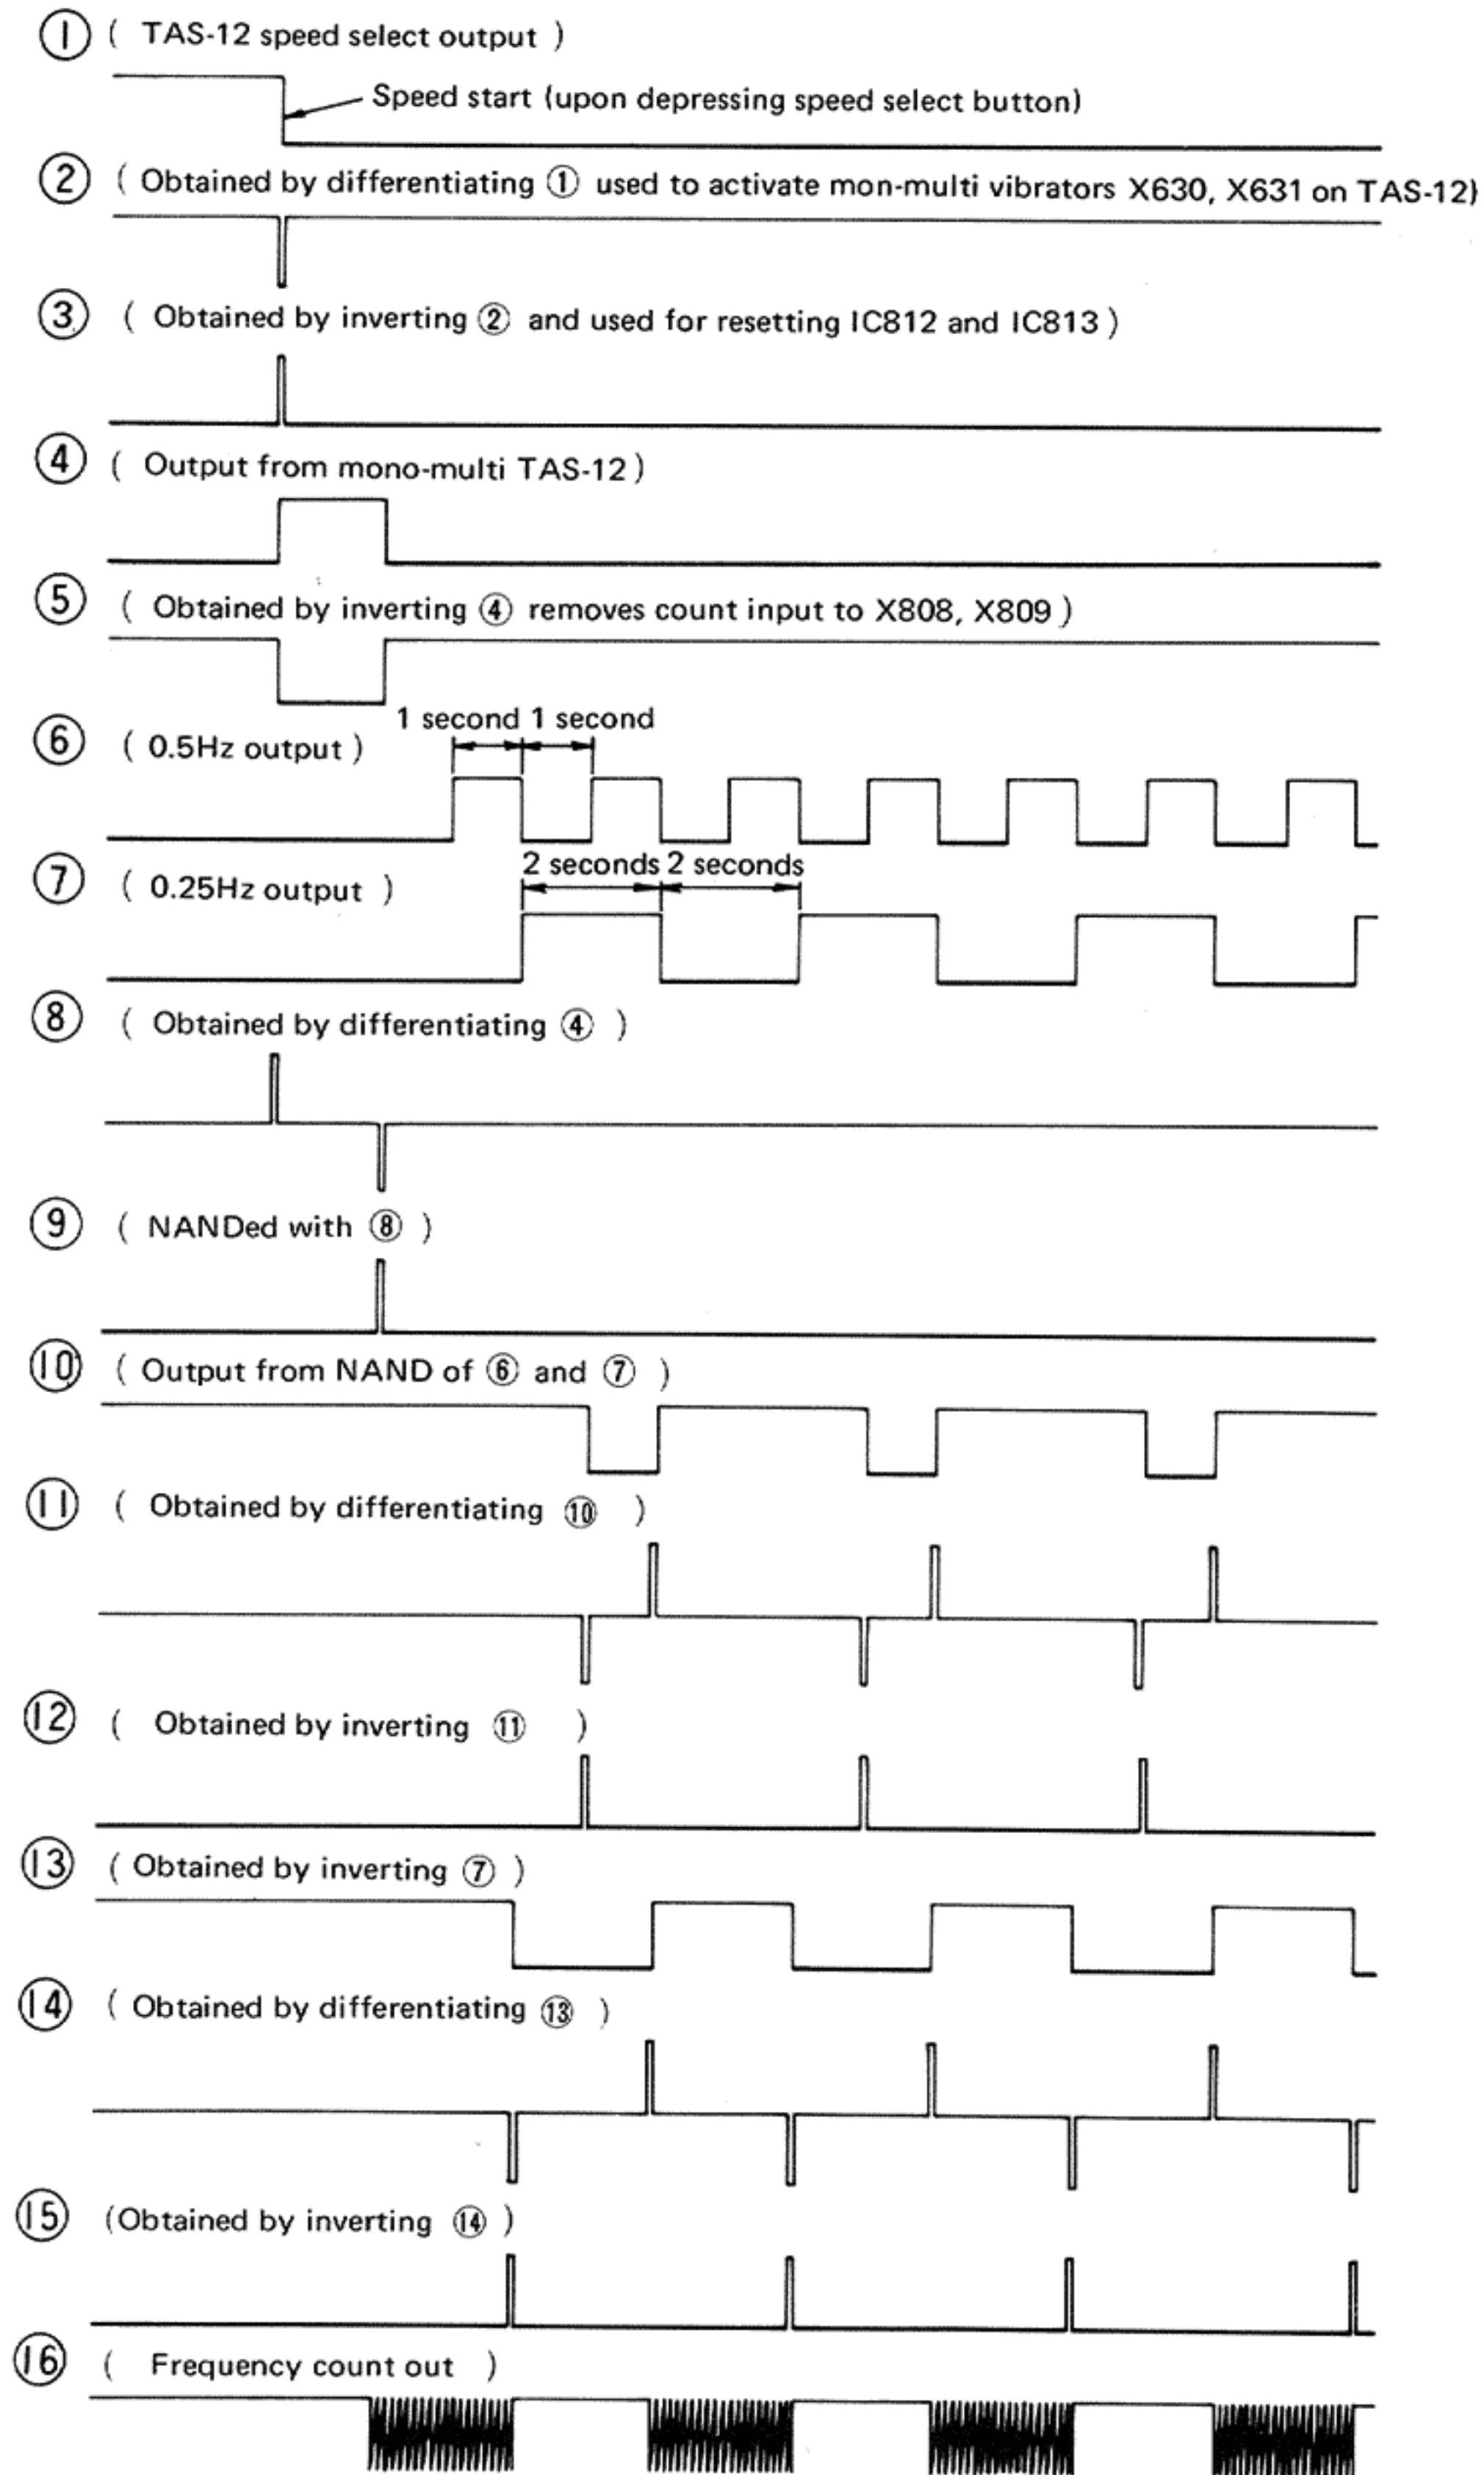
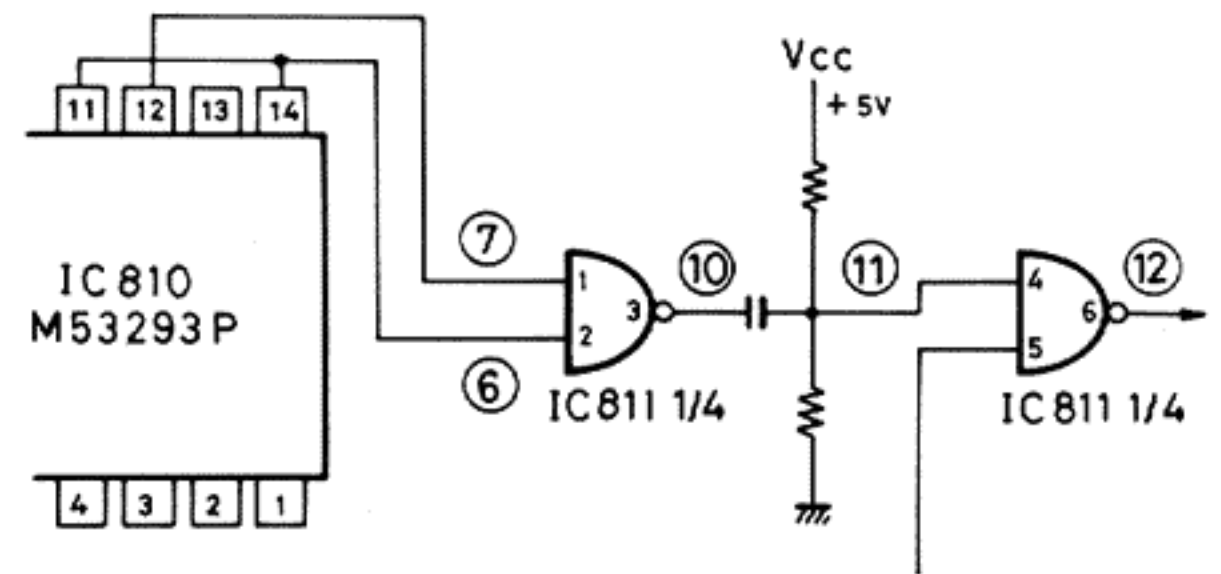

Fig. 15
Fig. 16
1. The count circuit displays the frequency of the input from an external source based on the time base generated by the Time Base generator (See Figure 15).
(1) Reset signal
- The reset signal is used to determine count-start points of the 1/10 Counter and 1/1000 Dynamic Counter and to zero the counters. Counter reset timing is generated by waveforms ⑥, ⑦, ⑩, ⑪ and ⑫ in Figure 15.
- Waveforms ⑥ and ⑦ are input to the NAND gate to produce short-duration minus pulses ⑩ which are differentiated to produce plus and minus spikes ⑪. The spikes are then forced to enter the gate and become plus spikes ⑫. The reset signal is triggered by the last all-plus spike. Figure 16 shows the circuit creating the reset signal.
(2) Latch signal
The latch signal causes the BCD contents of the Dynamic Counter to be output to the indicator circuit. There are two methods of transferring BCD contents. If SW3 is set to the Hold side, the latch signal pulse causes the contents to be transferred in the multiplexing mode, whereas if the switch is set to the Run side, latch pulses are not generated and the contents are transferred in the burst mode. At present, most counters employ the Hold type. The latch signal used with the Hold type is obtained through waveforms ⑬, ⑭ and ⑮ in Figure 15.
B. Dynamic Counter IC813 (TC5001), shown in Figure 15, is a C. Mos LSI which has numerous functions and elements. The device forms a 4-digit indication counter housed in a 24-Pin ceramic package, and consists of ① to ④ 1/10 Decade Counters serially connected to each other. When a frequency is input to the Count Input, each of the four Decade Counters produces a pulse from terminal D every 10th period of the input frequency. This results in the last Decade Counter producing a frequency of $(1/10)^4 = 1/10000$ from the input frequency.
The output ① in Figure 15, produced by a flip-flop in the Speed Select section, is differentiated to produce a spike in High-to-Low transition, and used to drive the monostable multivibrator, consisting of X630 and X631, which makes the collector of X633 High for about 1.4 seconds (as shown by ④), thus causing the Count Set circuit to stop counting the time base frequency. At the same time, the minus spike is inverted and used to reset IC812 (M53290P) and IC813 (TC5001C), thus making the contents of both ICs, zeros or empty.
At speed start, the counters do not have inputs thus contain zero contents. Then 1.4 seconds after start, the status is indicated by the LED indication lamps utilizing the latch signal ⑨ in Figure 15.